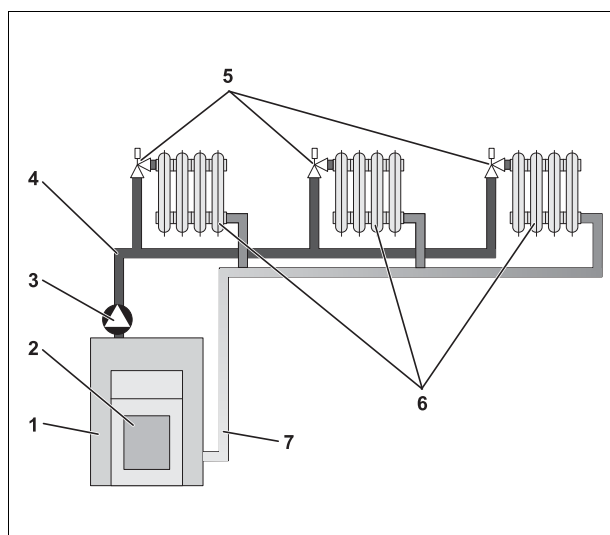

Fig. 1 Pumped central heating design
Fig. 1 shows the heating circuit of a pumped central heating system: The burner (2) heats the water inside the boiler (1). This heating water is propelled by the pump (3) through the supply pipe (4) to the radiators (6). The heating water flows through the radiators, and in doing so, gives off some of its heat. The heating water flows back to the boiler via the return pipe (7); there, the circuit begins again.
A heating describes the loop taken by the heating water from the boiler via the radiators and back to the boiler (Fig. 1 on page 8). A simple heating zone comprises a heat generator, a supply pipe, a radiator and a return pipe. A pump installed into the supply pipe circulates the heating water. Provided that the pipes are well insulated, all the radiators will be supplied with the same supply temperature.